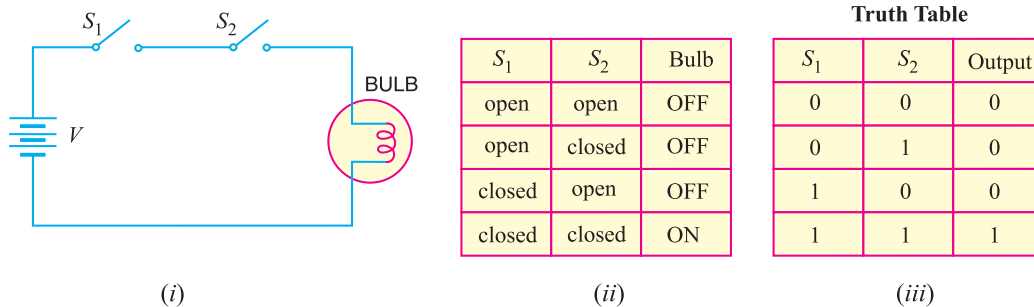

Fig. 26.5
Since a logic gate is a switching circuit (*i.e.* a digital circuit), its output can have only one of the two possible states *viz.*, either a high voltage (1) or a low voltage (0) — it is either *ON* or *OFF*. Whether the output voltage of a logic gate is high (1) or low (0) will depend upon the conditions at its input. Fig. 26.5 shows the basic idea of a *logic gate using switches.